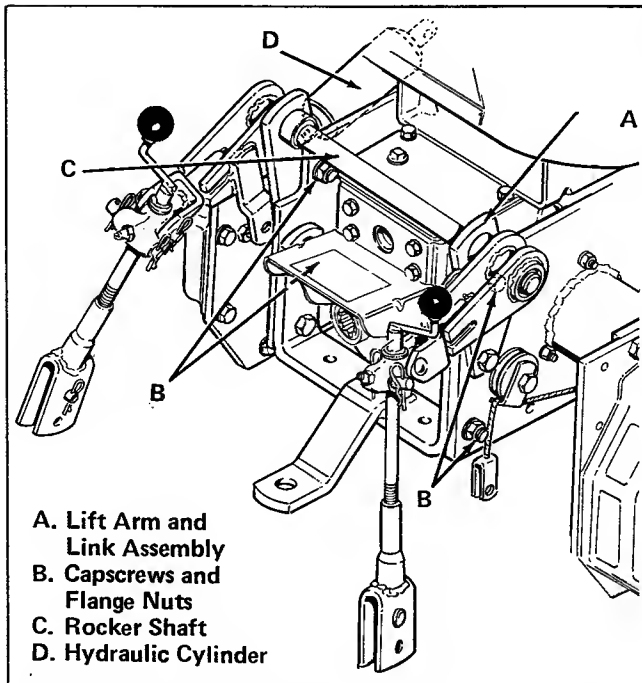

Figure 4. Install Lift Arm and Link to Tractor
8. Install complete lift arm and linkage assembly (item A, figure 4) to the tractor frame by replacing four capscrews and flange nuts removed in step 2 (item B). While tightening these nuts, push forward on the rocker shaft (item C) to insure it will be secure and provide adequate clearance for the upper link assembly. Torque these nuts to 110 foot-pounds (149 N·m).